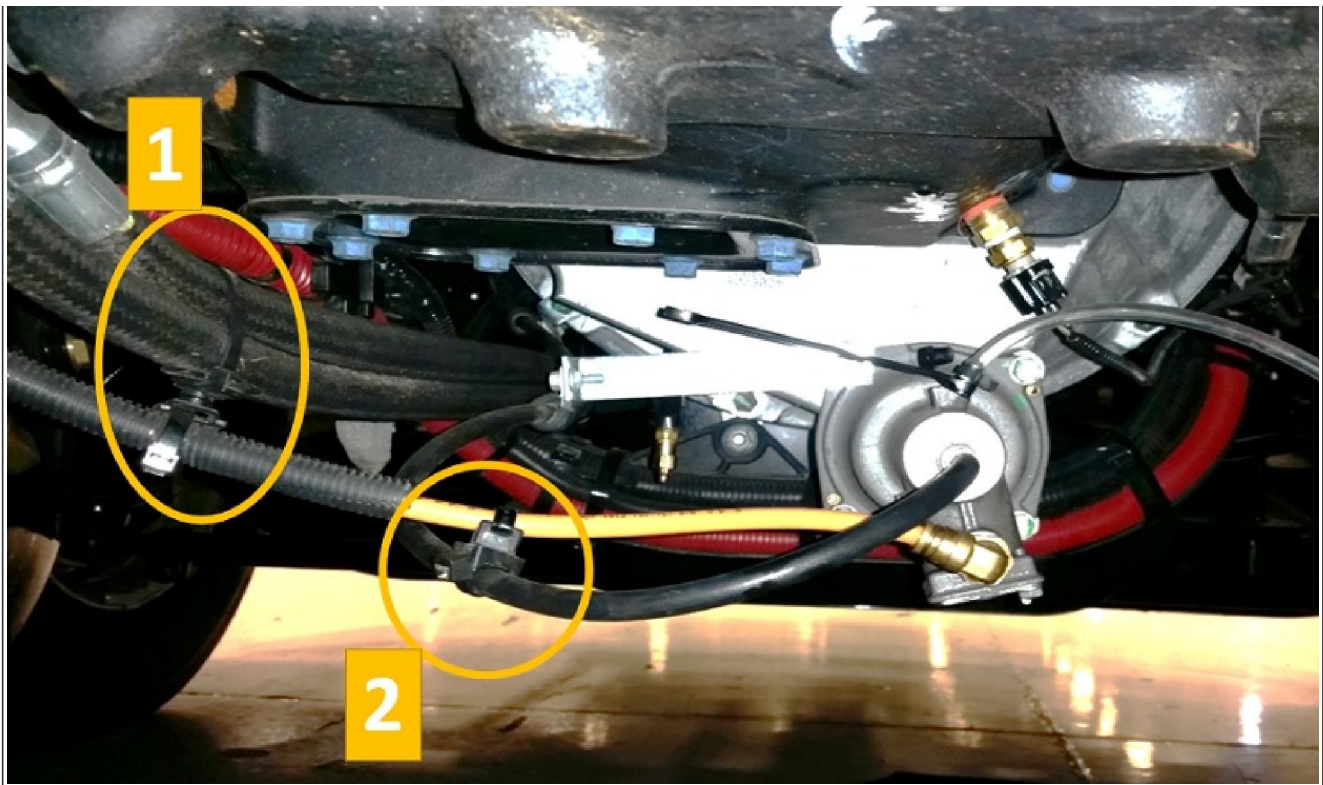

Figure 4. Incorrect Air Assist Servo Cylinder Supply Hose Routing
2. Cut the zip tie at the saddle clamp (Figure 4, Item 2).